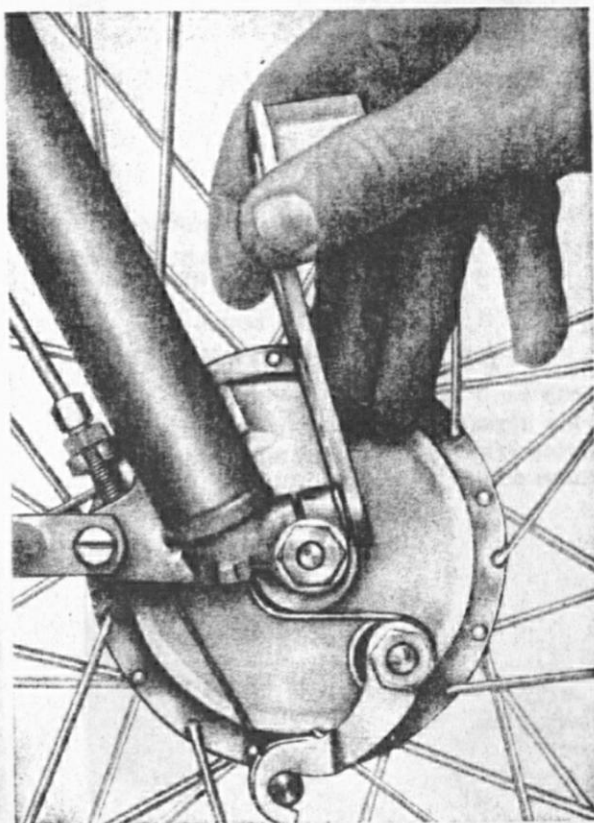

Fig. 7: Loosening the clamp screw of the front wheel
1. Loosen both clamp screws (Fig. 7) by 2—3 turns.